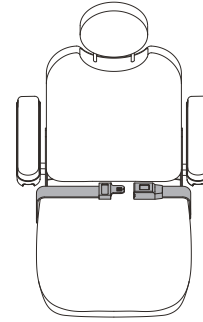

Figure 7. Positioning Belt Adjustment
Your power chair may be equipped with a positioning belt that can be adjusted for operator comfort. See figure 7. The positioning belt is designed to support the operator so that he/she does not slide down or forward in the seat. The positioning belt is not designed for use as a restraining device.
1. Once seated, insert the metal tab on one side of the belt into the plastic housing on the opposite side until you hear a click. **See figure 7.**